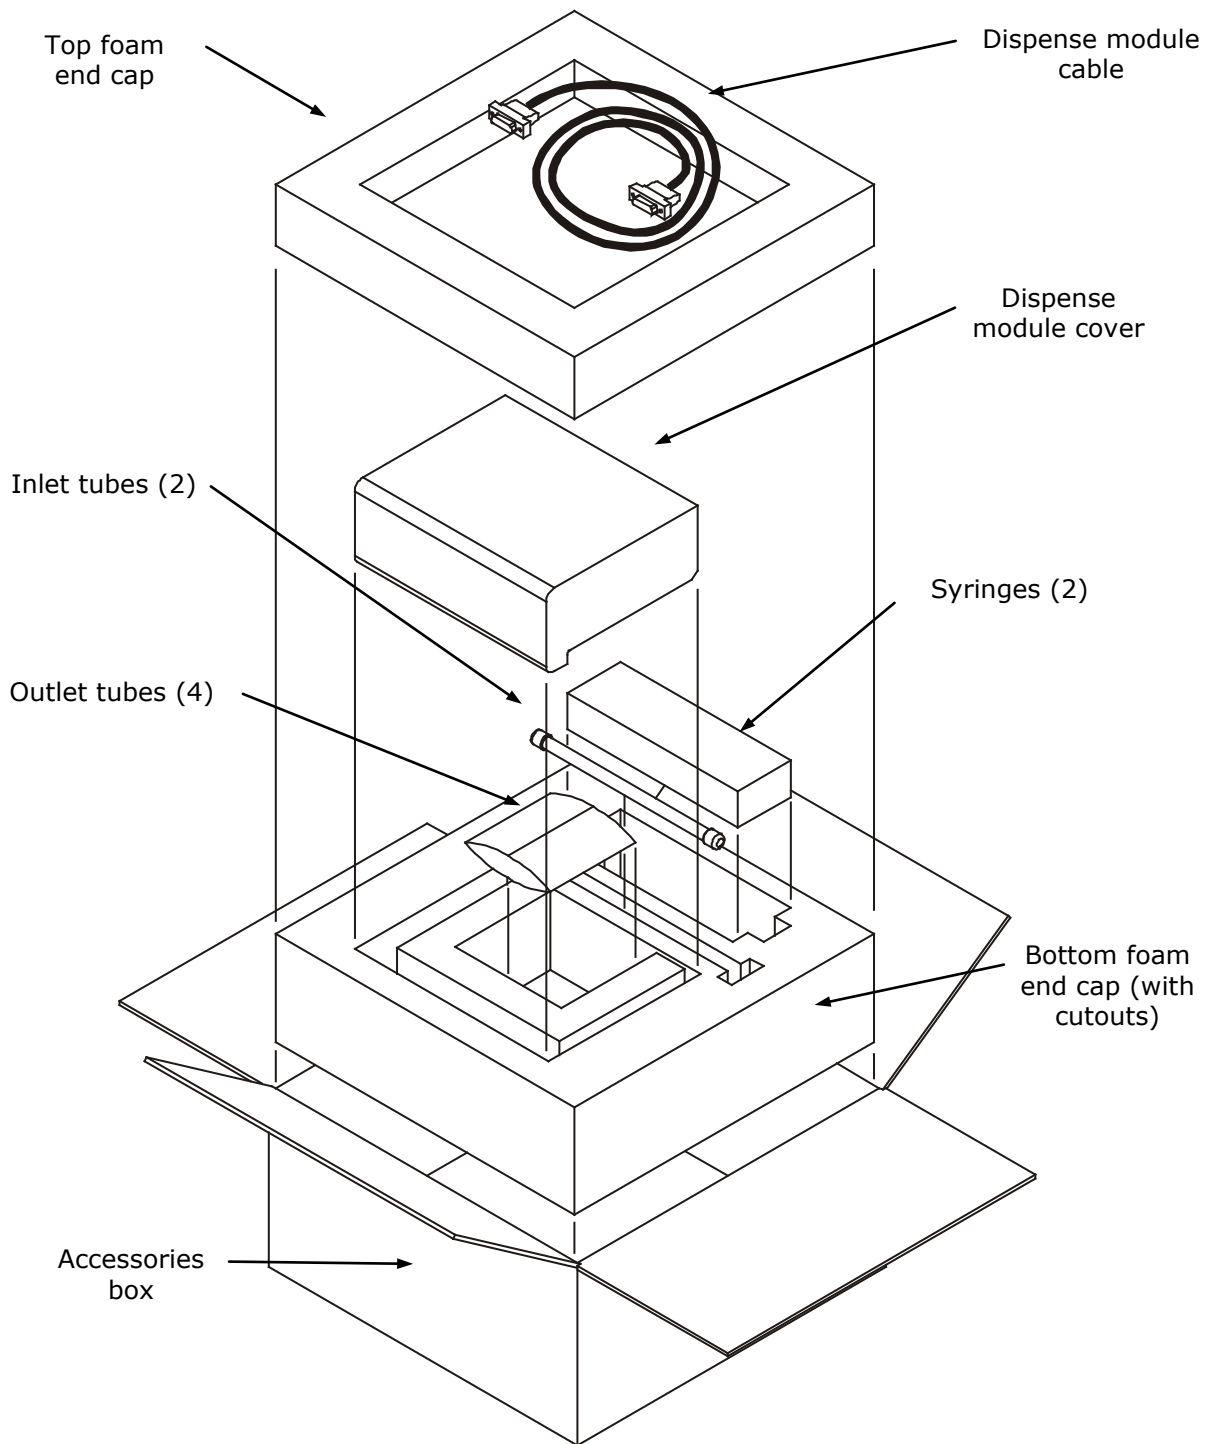

Figure 7: Unpacking the dispense module's accessories
3. Open the accessories box. Remove and identify its contents (see **Figure 7** on the next page):